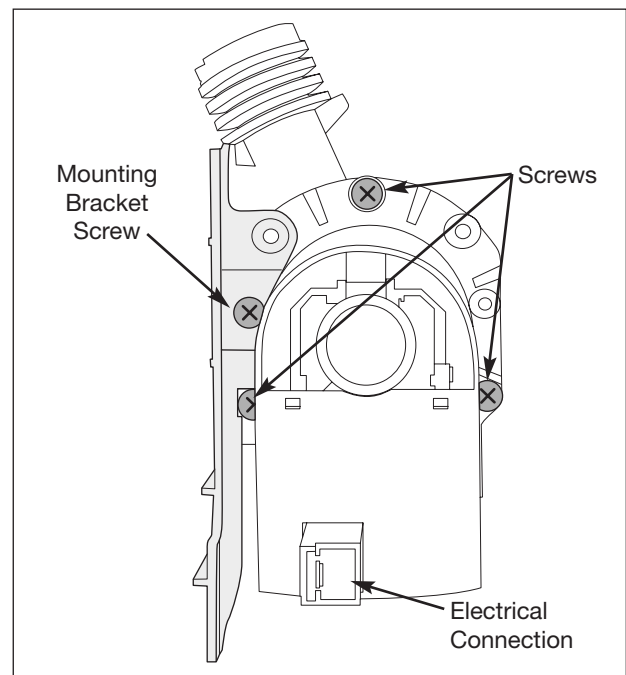

Figure 5-41. Drain Pump Breakdown
7. Remove the mounting bracket from drain pump by using a phillips head screwdriver and extracting the screw that secures the mounting bracket to the drain pump. (See Figure 5-41)